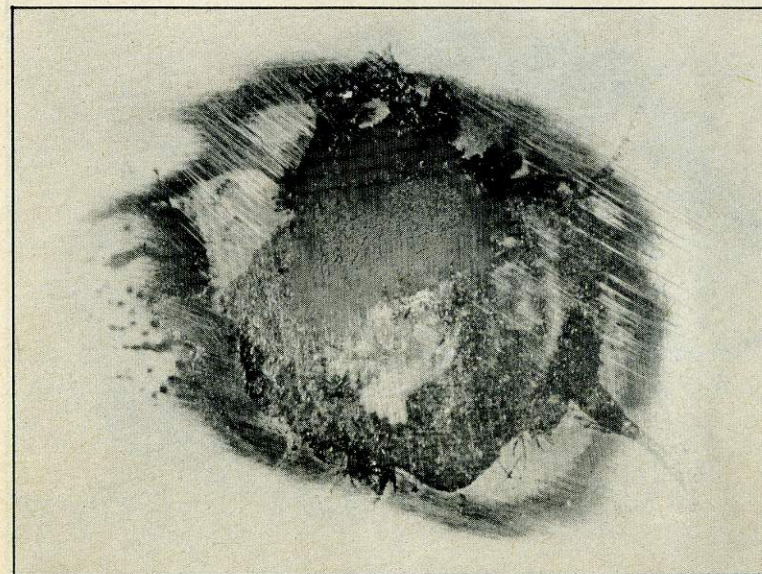

Figure 6
6. Apply the gel coat to the damaged area with a spatula or putty knife. Apply sufficient material for build-up around the area to permit filing or grinding and sanding operations, (fig. 6).